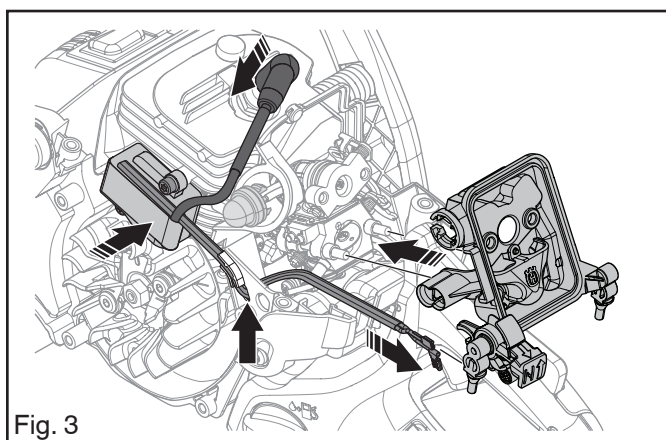

Fig. 3
4. Attach the ignition cable to the start/stop switch. See Figure 3.